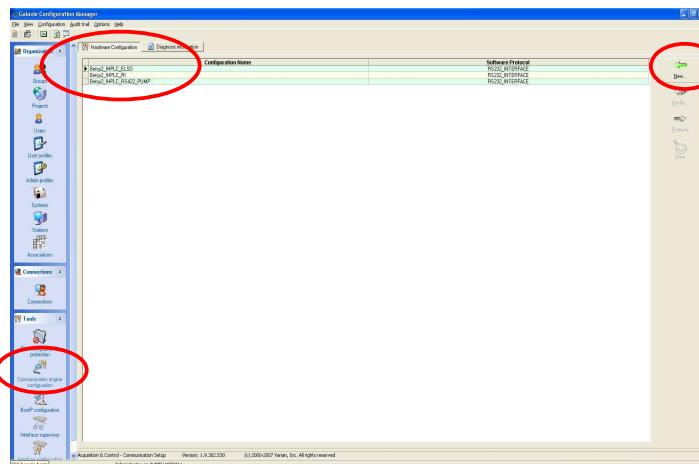
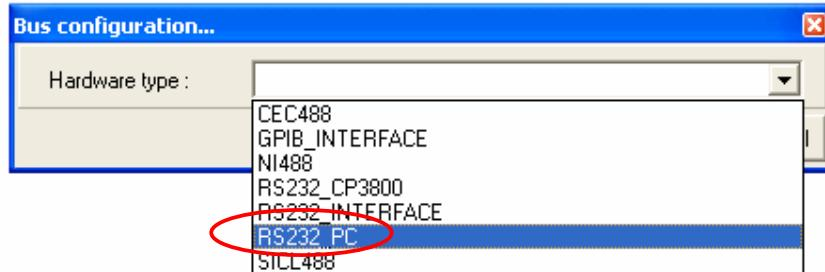

Figure 1: Galaxie Config Manager
Figure 2: ELSD driver Communication
2. The Setup Wizard sets up 3 layers of software protocols in the Communication Engine Configuration (Fig 1). These are the ELSD, RI and RS422_Pump layers. These are specific for the 900-LC instrument and have an RS232_interface set up and **cannot** be used for the standalone ELSD driver.
1. Add a Protocol layer for the ELSD standalone driver communication by clicking **New** (Fig 1). The following window appears (Fig 2). Click on the pull down button and select the **RS232_PC** layer that has been highlighted.